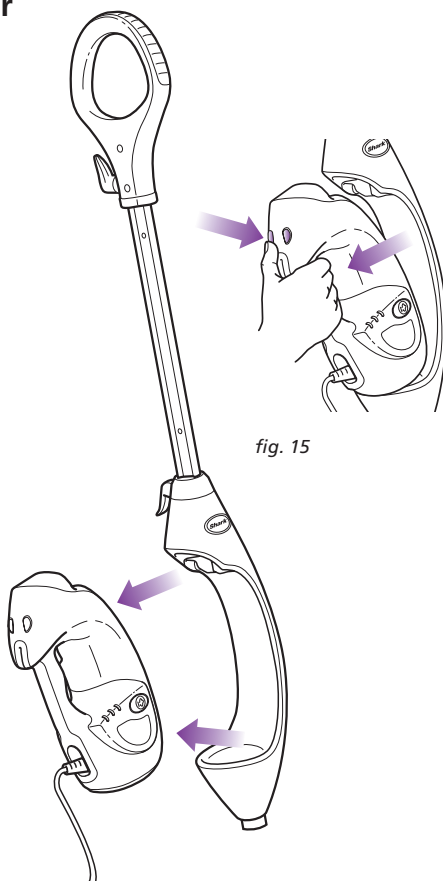

fig. 15
- 1 To remove the Handheld Steamer, press and hold down the Handheld Release Buttons while pulling out the Handheld Steamer. (**fig. 15**)